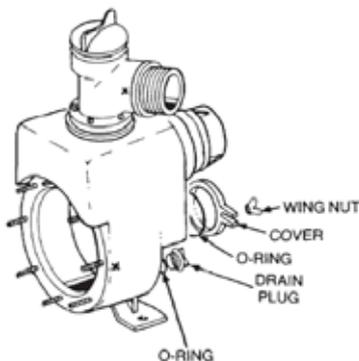

Figure 32 Cover Removal
- s.** Remove the two wing nuts from the hand-hole cover (Figure 32).